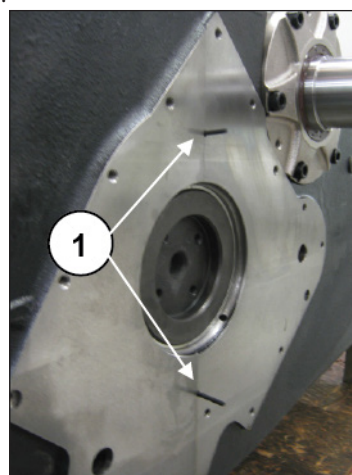
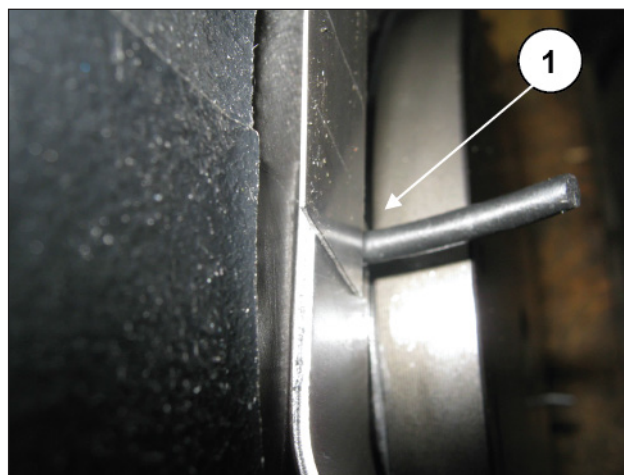

Fig. 113
Fig. 114
Use a craft knife and feeler gauge to cut the surplus portion of the O-rings protruding from the front and rear casing joint in correspondence with the crankshaft flange (pos. ①, Fig. 113 and Fig. 114).